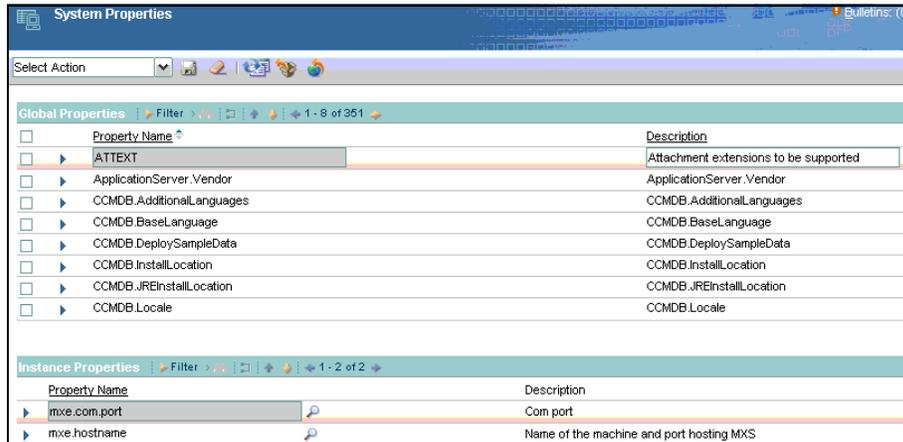

Figure 7-5 System Properties (1 of 3)
- To view the `mxe.im.sametimeserver` and `mxe.im.connectiontimeout` properties, use the filter to find the property. Type `mxe.im` and press Enter, which brings up the two instant messaging properties. Refer to Figure 7-5 on page 207.